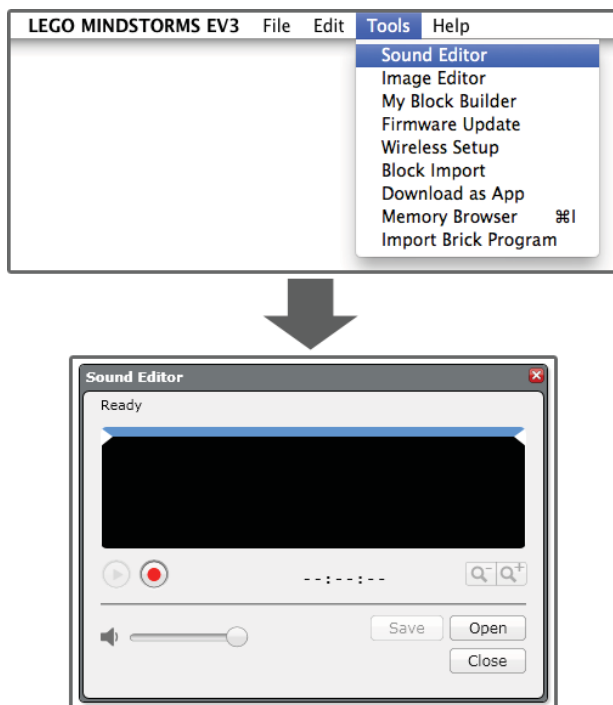

Figure 5-37: Opening the Sound Editor
1. Go to the Tools menu and select Sound Editor. Did you get a pop-up window that looks like the one in the bottom image in Figure 5-37?